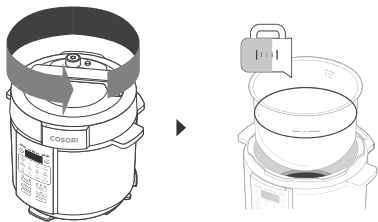

Figure 7.1
- 1. Twist the lid counterclockwise and lift to open. Add the milk to the inner pot. [Figure 7.1]